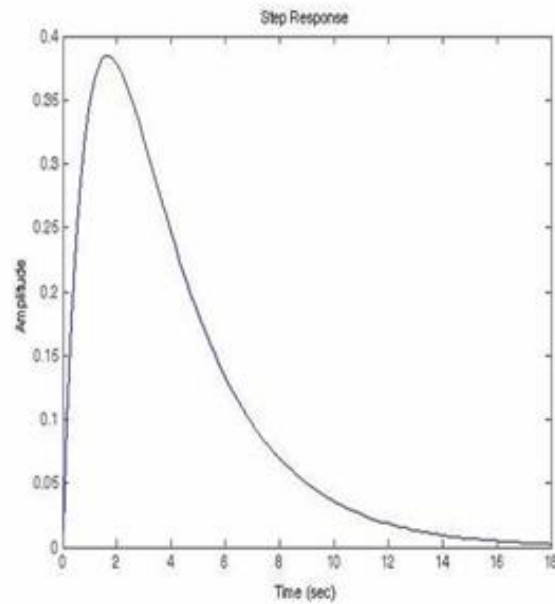

Figure 1-6
**Figure 1-6** shows the step response of a system